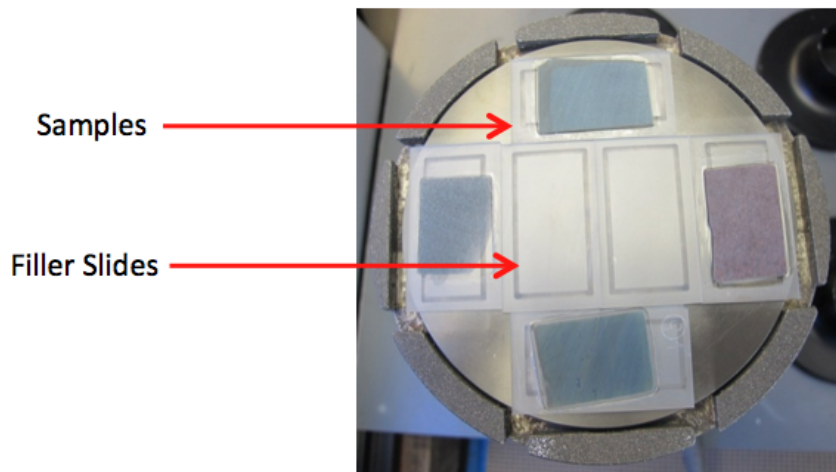

Figure 2
- b. If there are 3 or 4 samples, place them on the outer sides of the chuck face and the filler slides in the middle (Fig. 2).